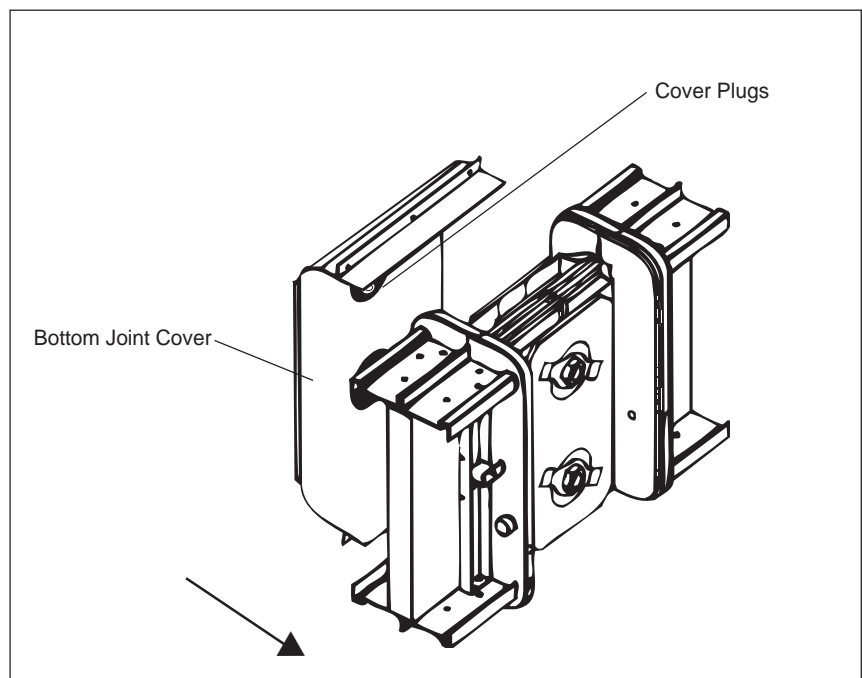

Figure 14
5. Install the bottom cover section (figure 14).